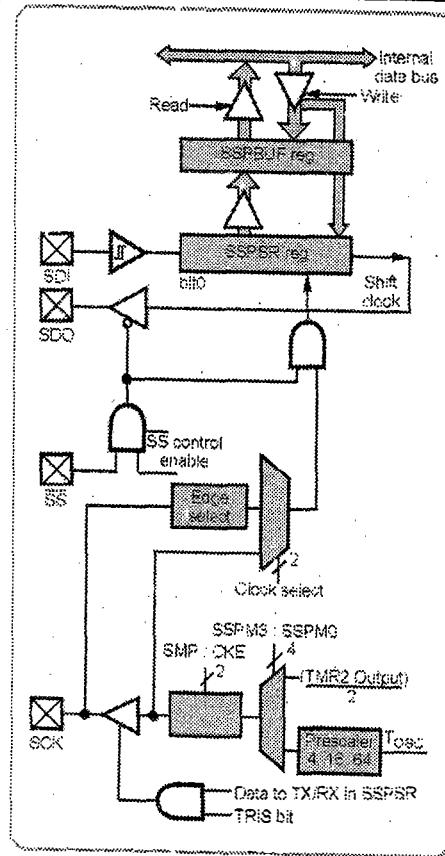

Fig. Q.7.1 MSSP SPI Mode
- The block diagram of MSSP - SPI is shown in Fig. Q.7.1. The block diagram is divided into three parts 1. Data bus for communication along with SSPBUF and SSPSR register, 2.Data and clock selection for Master and Slave (DI, DO, and SS pin and 3. Clock for shifting the data in and out.